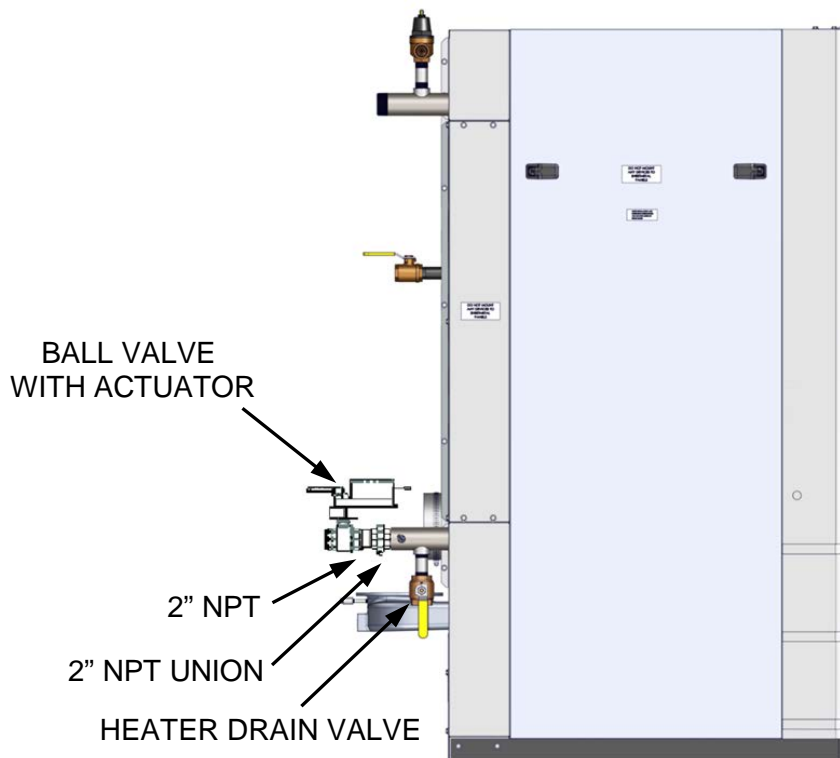

Figure 2-3b. Innovation Hot Water Boiler Equipped With Sequencing Valve
If the Innovation Hot Water Boiler was ordered for use with the C-More Water Heater Management (WHM) system and the actuator-controlled ball valve is not already installed on the unit (Figure 2-3b), it will be packed separately within the shipping container.
3. Ensure that the valve is positioned with the actuator enclosure position as shown in Figure 2-3b.